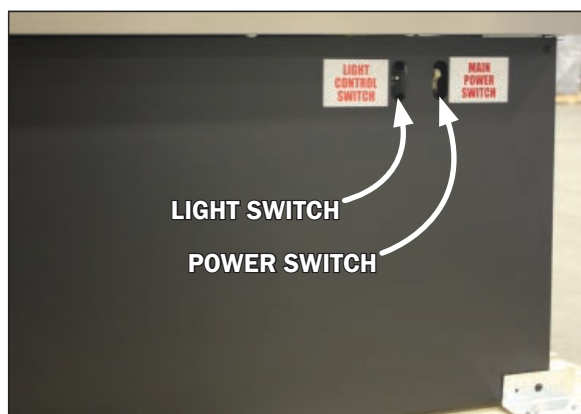

Fig. 7 Lower panel switch locations
1. After the main power cord located at the rear base panel of the case is plugged in and the power switch (Fig. 7) flipped to ON the case should begin normal operations.
3. After establishing power the light control switch located next to the power switch on the upper front exterior toe-kick panel, can be flipped to the ON position (Fig. 7). The case should now be fully operational and all lights functioning when in the ON position.